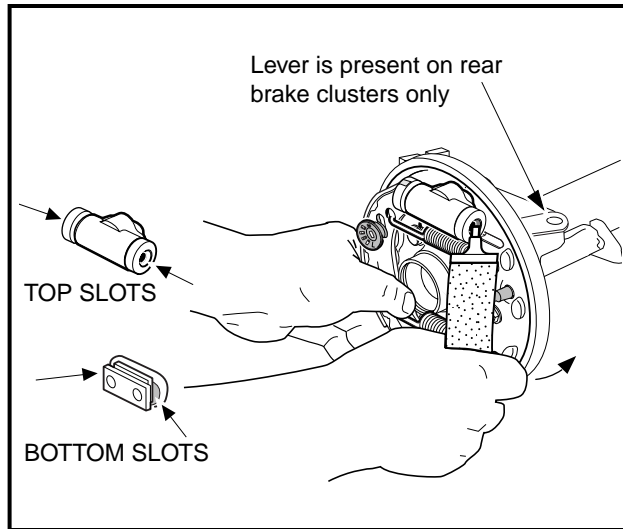

Figure 6-11 Shoe Installation
4. While maintaining spring attachment on both shoes, position the bottom tip of the rear shoe into the brake shoe mounting block and the top tip of the shoe into the slot in the wheel cylinder piston. Push the shoe into place. Hold shoe in position and install the cup and spring (**Figure 6-11, Page 6-13**). For rear brake shoes only, align the notches in the brake shoes (13) (**Figure 6-18, Page 6-20**) with the notches in the park brake lever assembly (14) as illustrated. Gently press the lever (14) at the back of the brake cluster to ensure that it is seated correctly between the brake shoes.